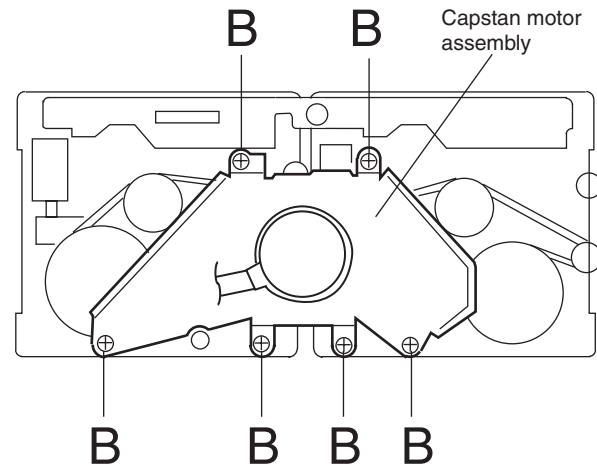

Fig.5
## ■ Removing the capstan motor assembly (See Fig.5 to 7)
- 1.Remove the six screws "B" retaining capstan motor assembly (See Fig. 5).